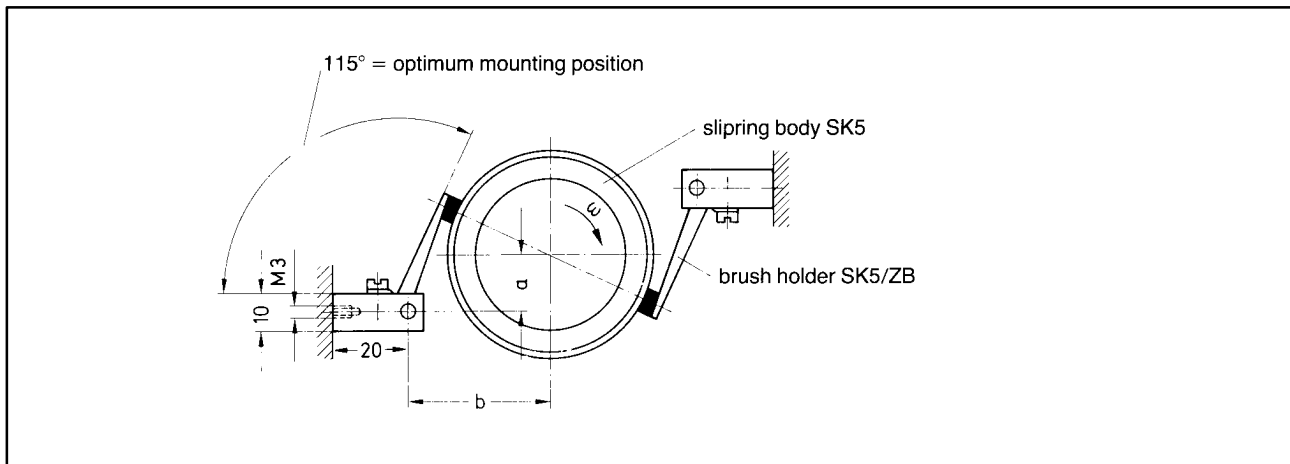

Fig. 10.1: Slipping body SK5 with brush holder SK5/ZB, mounting example
Two brush holders SK5/ZB with five brushes each complete the slipring body to form the assembly. The five brushes are arranged for signal transmission on the holder. They can move about a common bolt and springs will provide the necessary mechanical pressure. Two holes with M3 thread are for the mounting of the brush holder. Thus the fixing can be designed according to the requirements. The optimum arrangement of slipring body and holder is shown in Fig. 10.1.
4. The brush holders shall be arranged at opposite sides of the shaft (see fig. 10.1). This is a precondition for a safe signal transmission. The brush holders shall be mounted in such a way that the brush underneath the black clamping screw is associated with the first slipring next to the cable outlet. The clamp connections marked with colours on the brush holder will then be in the same sequence as cable core colours of the slipring body.